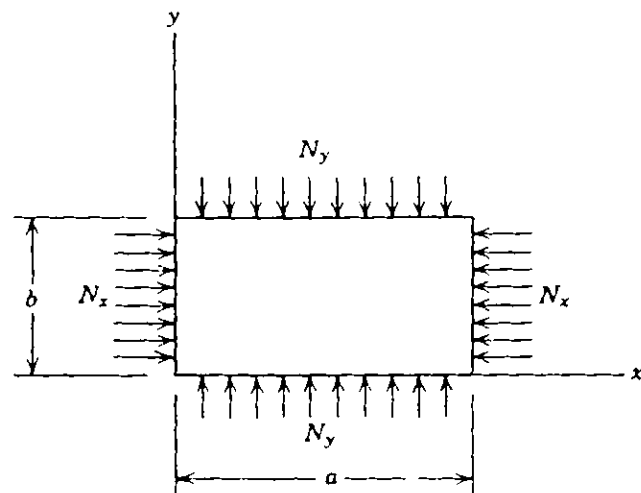

Figure 1
- (5) (c) What are the boundary conditions for the problem illustrated in Figure 1? Indicate which boundary conditions are forced (kinematic constraints) or natural (stress constraints).